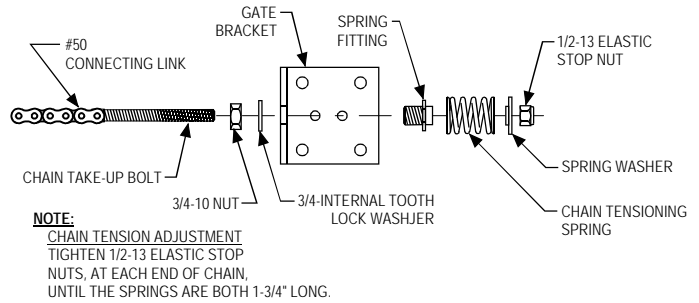

Figure 5
- (3.) Install spring fitting into gate brackets using 3/4" nuts (See Fig. 5).
- (4.) Install chain take up bolt into spring fitting in furthest gate bracket, and secure into position with spring, spring washer, and 1/2" elastic stop nut (See Fig. 5).
- (10.) Adjust chain tension so that the chain tension springs are reduced in length to 1-3/4 inches (*See Fig. 5*).